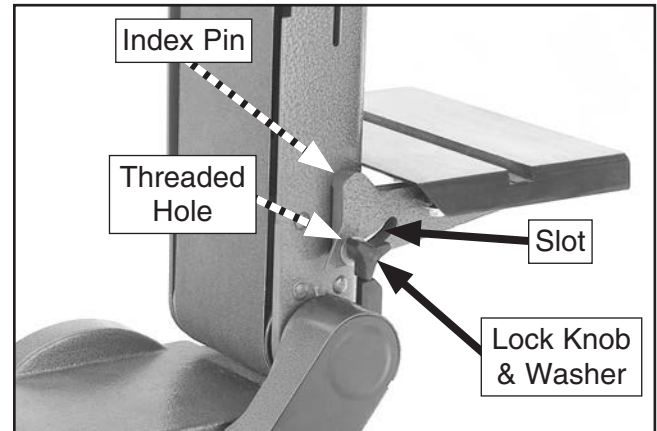

Figure 24. Installing work table on sanding bed.
5. Insert index pin of work table into mounting hole in sanding bed (see **Figure 24**).
6. Insert table lock knob with flat washer through slot in work table, and into threaded hole in sander body (see **Figure 24**).